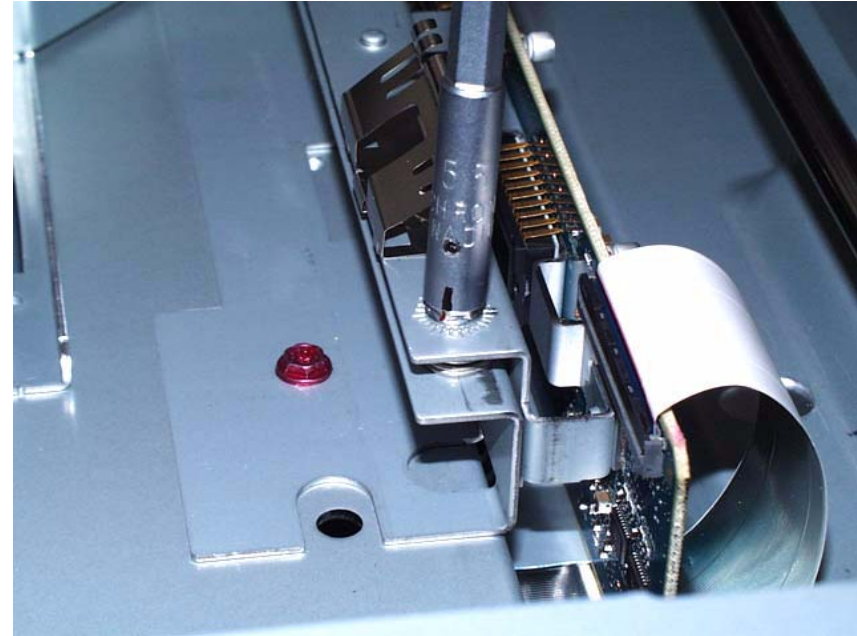

Figure 1 Tool and Front Optics Adjusting Nut
2. Place an index mark on the barrel of a 5.5mm nut driver. The following figure shows the tool and the adjusting nuts. (Figure 1)